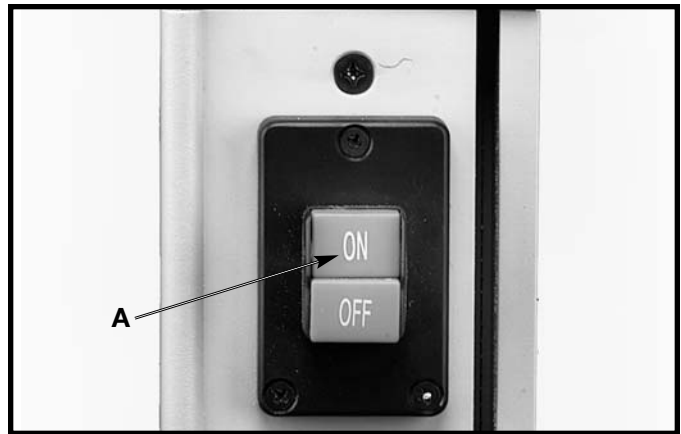
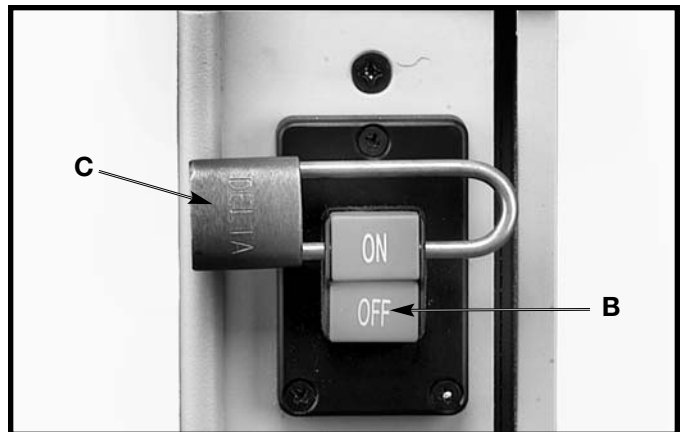

Fig. 21
Fig. 22
The "ON/OFF" switch is located on the front side of the band saw. To turn the saw "ON", push the button (A) Fig. 21 in to the "ON" position. To turn the saw "OFF", push the button (B) Fig. 22 in to the "OFF" position.
IMPORTANT: When the tool is not in use, the switch should be locked in the "OFF" position to prevent unauthorized use, using a padlock (C) Fig. 22 with a 3/16" diameter shackle.